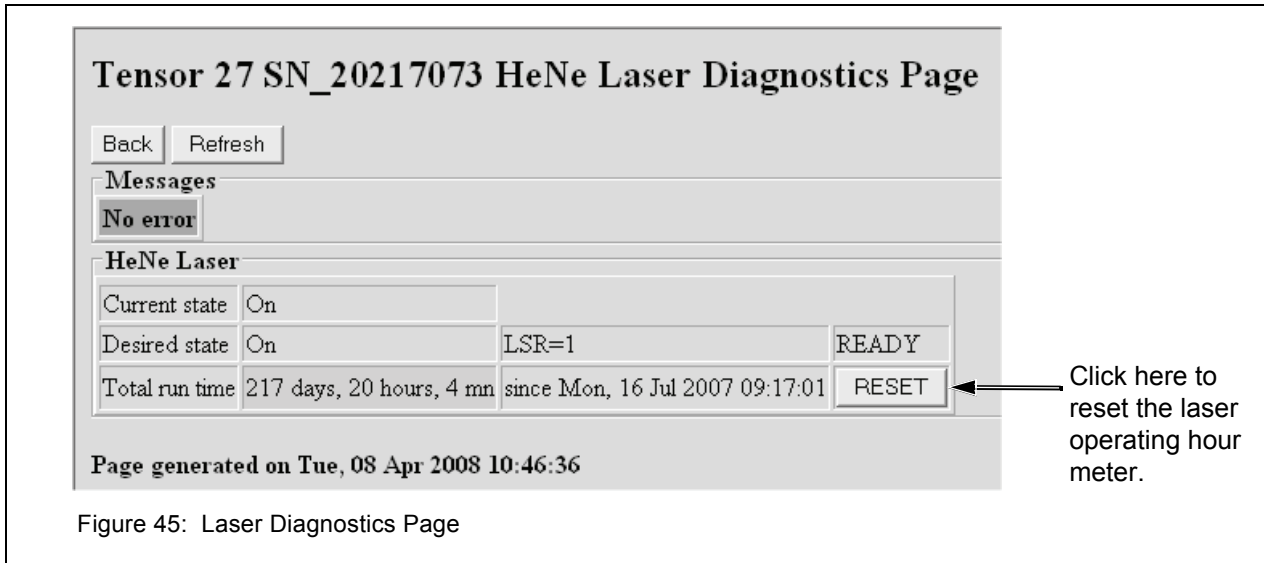

Figure 45: Laser Diagnostics Page
- 12 **Reset the laser operating hour meter:** Click in OPUS either on the status light or select in the *Measure* menu the *Optics Diagnostics* function. The *Instrument Status* window opens. Click on the *HeNe laser* icon and then on the *Service Info* button. The laser diagnostics page opens. (See fig. 45.) Click on the *Reset* button.